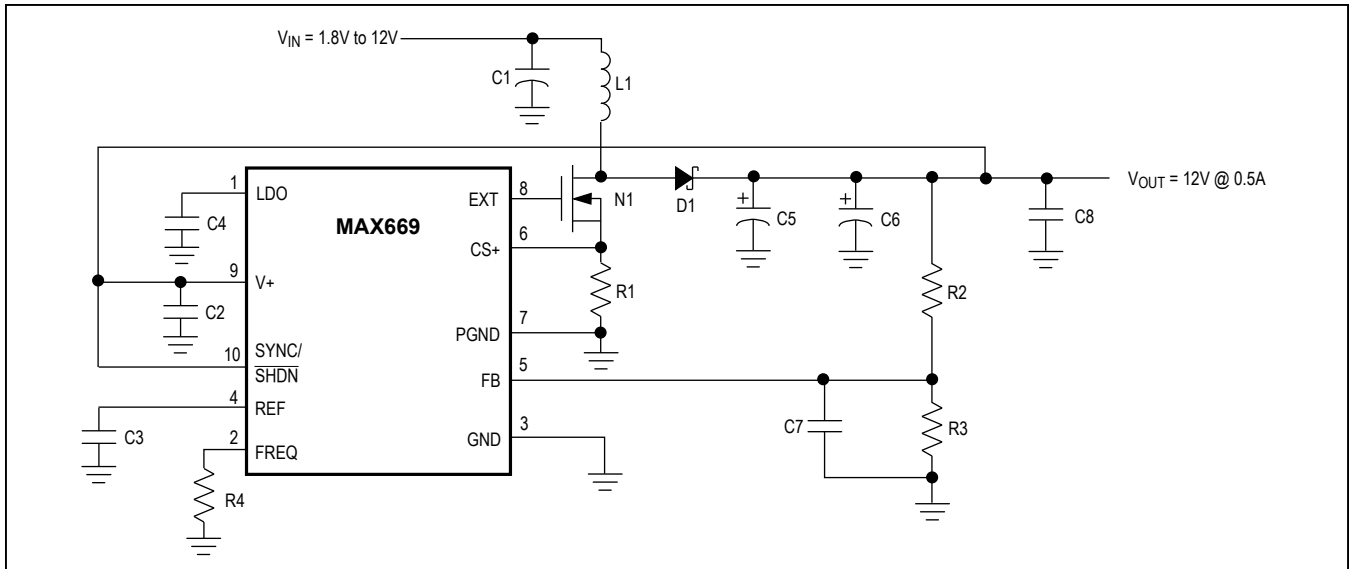
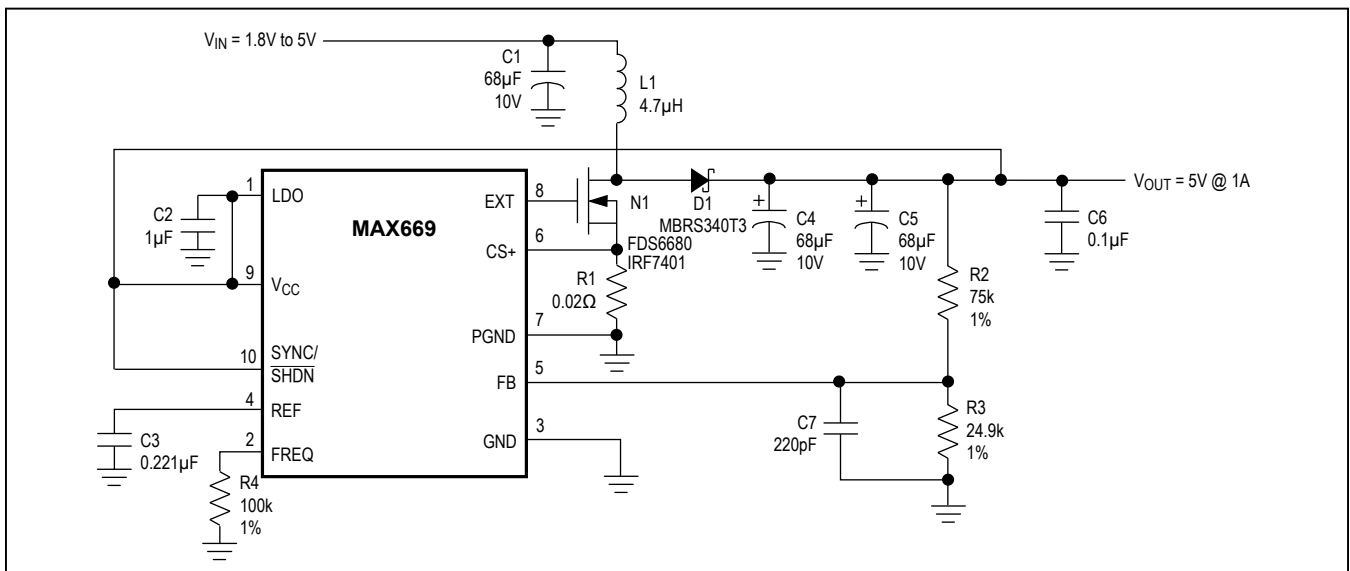
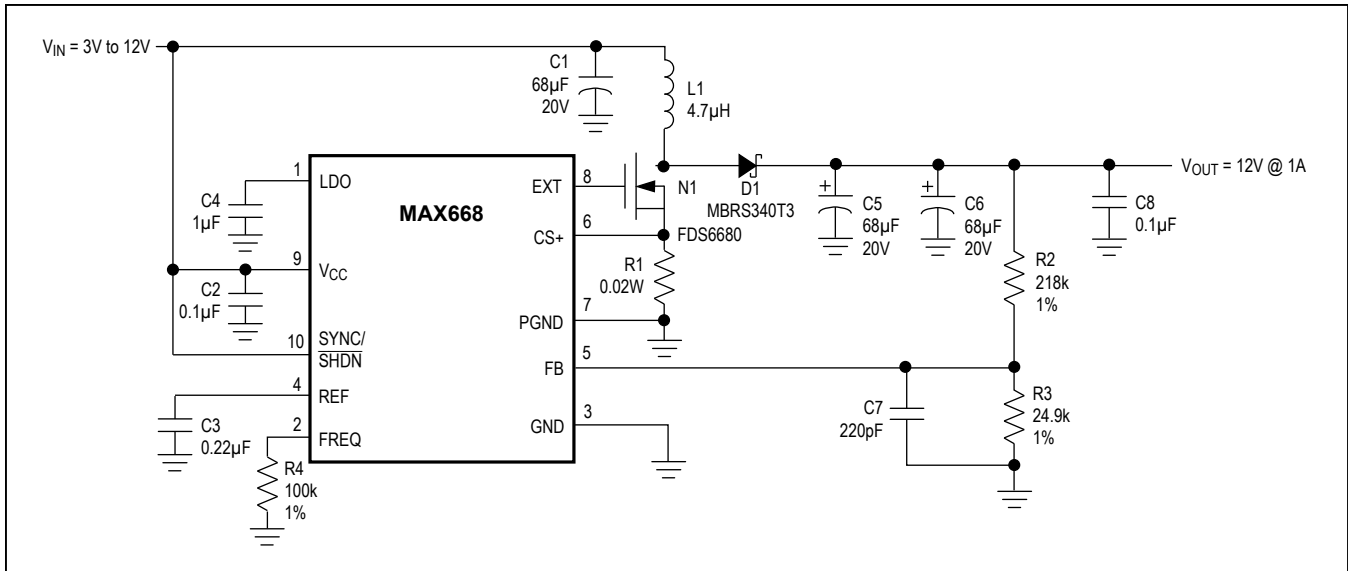
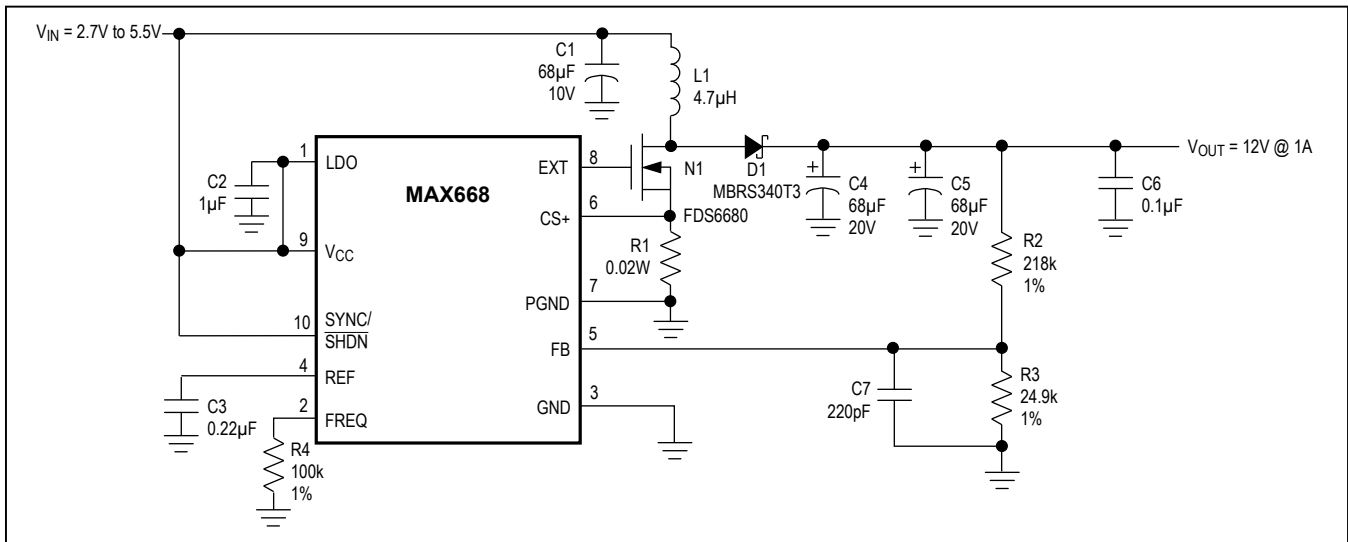

Figure 2. MAX669 High-Voltage Bootstrapped Configuration
Figure 3. MAX669 Low-Voltage Bootstrapped Configuration
Figure 4. MAX668 High-Voltage Non-Bootstrapped Configuration
Figure 5. MAX668 Low-Voltage Non-Bootstrapped Configuration
(Circuits of Figures 2, 3, 4, and 5; $T_A = +25^\circ\text{C}$; unless otherwise noted.)
V_{CC} and LDO allow a variety of biasing connections to optimize efficiency, circuit quiescent current, and full-load start-up behavior for different input and output voltage ranges. Connections are shown in Figure 2, Figure 3, Figure 4, and Figure 5. The characteristics of each are outlined in Table 1.
With V_{CC} connected to V_{OUT} , as in Figure 2, EXT voltage swing is 5V when V_{CC} is 5.2V or more, and $V_{CC} - 0.2V$ when V_{CC} is less than 5.2V. If the output voltage does not exceed 5.5V, the on-chip regulator can be disabled by connecting V_{CC} to LDO (Figure 3). This eliminates the LDO forward drop and supplies maximum gate drive to the external FET.
With non-bootstrapped operation, the IC is powered from the input voltage (V_{IN}) or another source, such as a logic supply. Non-bootstrapped operation (Figure 4) is recommended (but not required) for input voltages above 5V, since the EXT amplitude (limited to 5V by LDO) at this voltage range is no higher than it would be with bootstrapped operation. Note that non-bootstrapped operation is *required* if the output voltage exceeds 28V, since this level is too high to safely connect to V_{CC} . Also note that **only the MAX668 can be used with non-bootstrapped operation.**
If the input voltage does not exceed 5.5V, the on-chip regulator can be disabled by connecting V_{CC} to LDO (Figure 5). This eliminates the regulator forward drop and supplies the maximum gate drive to the external FET for lowest on-resistance. Disabling the regulator also reduces the non-bootstrapped minimum input voltage from 3V to 2.7V.
* For standard step-up DC-DC circuits (as in Figures 2, 3, 4, and 5), regulation cannot be maintained if V_{IN} exceeds V_{OUT}. SEPIC and transformer-based circuits do not have this limitation.
The output voltage is set by two external resistors (R_2 and R_3 , Figure 2, Figure 3, Figure 4, and Figure 5). First select a value for R_3 in the 10k Ω to 1M Ω range. R_2 is then given by:
where $R2$ and $R3$ are the feedback resistors (Figure 2, Figure 3, Figure 4, and Figure 5). If the calculated value for C_{FB} results in a non-standard capacitance value, values from $0.5C_{FB}$ to $1.5C_{FB}$ will also provide sufficient compensation.
In non-bootstrapped configurations (Figure 4, and Figure 5), the MAX668 can start up with any combination of output load and input voltage at which it can operate when already started. In other words, there are no special limitations to start up in non-bootstrapped circuits.
Figure 5 shows the MAX668 operating in a 5V to 12V boost application. This circuit provides output currents of greater than 1A at a typical efficiency of 92%. The MAX668 is operated in non-bootstrapped mode to minimize the input supply current. This achieves maximum light-load efficiency. If input voltages below 5V are used, the IC should be operated in bootstrapped mode to achieve best low-voltage performance.